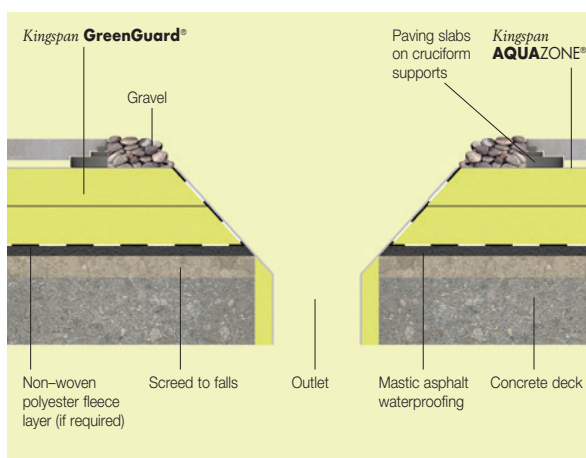

Figure 8 – Two Level Drainage
- Insulate internal rainwater downpipes and other pipes that penetrate the roof if they pass through spaces with a high humidity and if any condensate will damage the structure or internal finishes. Use **Kingspan GreenGuard**[®] around the pipe outlet and wrap joints with vapour resistant tape to restrict water vapour from reaching the pipe (see Figure 8).